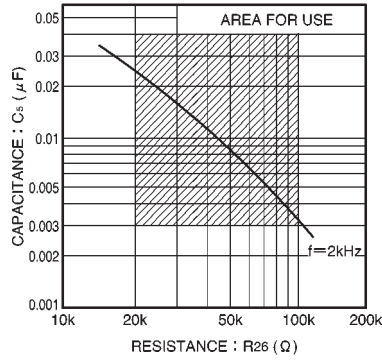

Fig. 7 Value of external components for oscillator (Vcc = 5.0V)
(3) The external resistor R_{26} connected to the oscillator (pin 30) should be in the range of 20k Ω and 100k Ω . If it is outside this range, oscillation may stop due to the influence of temperature (see Fig. 7).